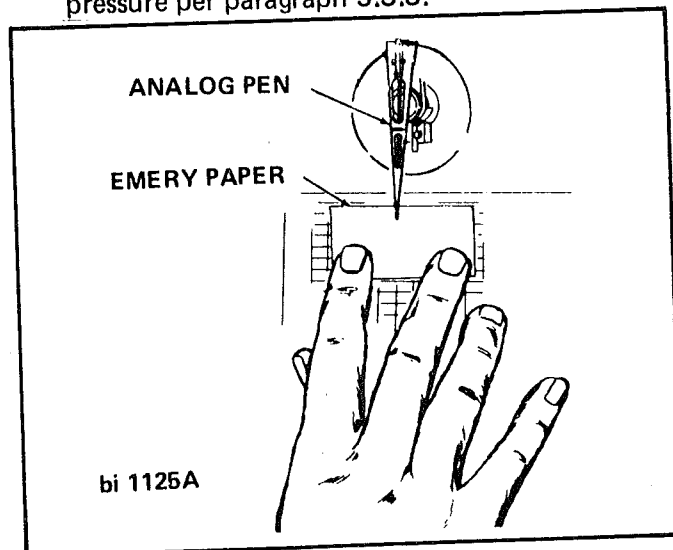

FIGURE 5-11 PEN LAPPING
4. Refer to Figure 5-11. Hold lapping paper flat against writing table and move it in a circular motion several times while gently pressing pen tip with finger.